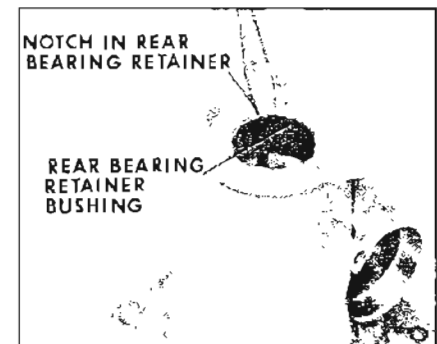

Figure 5-138
1. Inspect and if necessary replace rear bearing retainer bushing. Place screwdriver in notch in rear bearing retainer, then tap screwdriver with hammer to collapse bushing. See Figure 5-138.